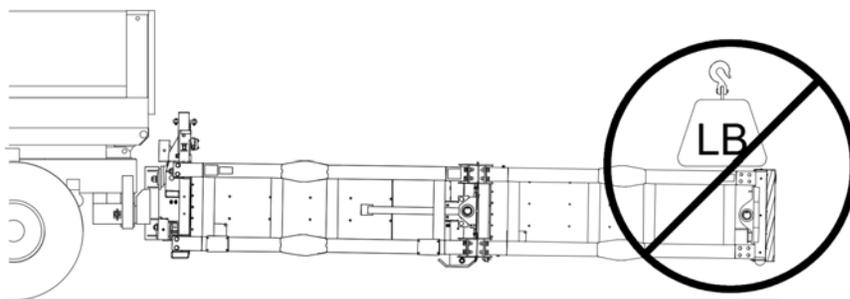

Figure 4
3. The SS180® M is intended to support its own weight and dissipate the kinetic energy of errant vehicles per MASH criteria. Do not drag the TMA or place anything on its top or damage will result. Do not sit, stand, or lean on any part of the TMA (Figures 4 & 5).